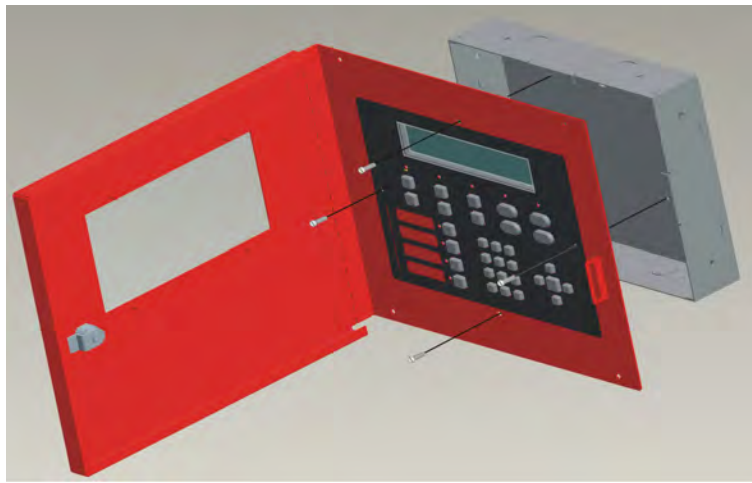

Figure 4.18 Attaching Annunciator / Door Assembly to Backbox
4. Attach the annunciator and door assembly to the back box as shown in Figure 4.18 using the supplied screws.